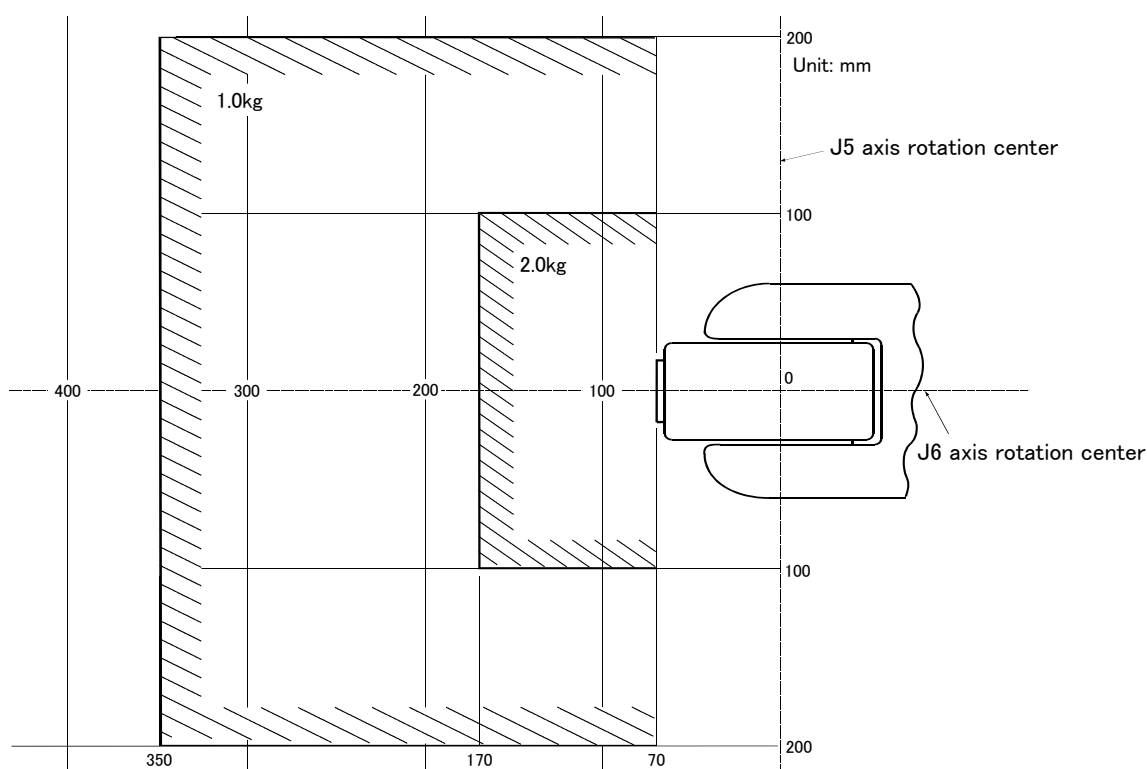

Fig.2-1 : Position of center of gravity for loads (for loads with comparatively small volume)
- (1) The tooling should have the value less or equal than the smaller of the tolerable inertia and the tolerable moment found in Page 7, "2.1.1 Basic specifications".
- (2) Fig. 2-1 shows the distribution dimensions for the center of gravity in the case where the volume of the load is relatively small. Use this figure as a reference when designing the tooling.
- (3) Even if the load is force, not the mass, design the tooling so that moment does not exceed the allowable moment. Refer to Page 7, "2.1 Standard specifications" for details of allowable moment value.